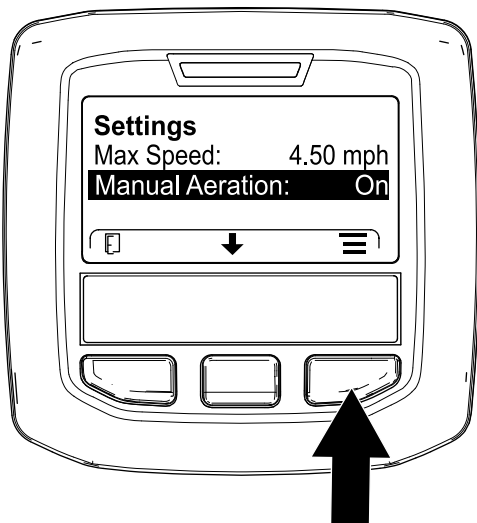

Figure 124
5. Press the center InfoCenter button until the MANUAL AERATION option is selected, and press the right button (Figure 124) to set manual aeration to ON.